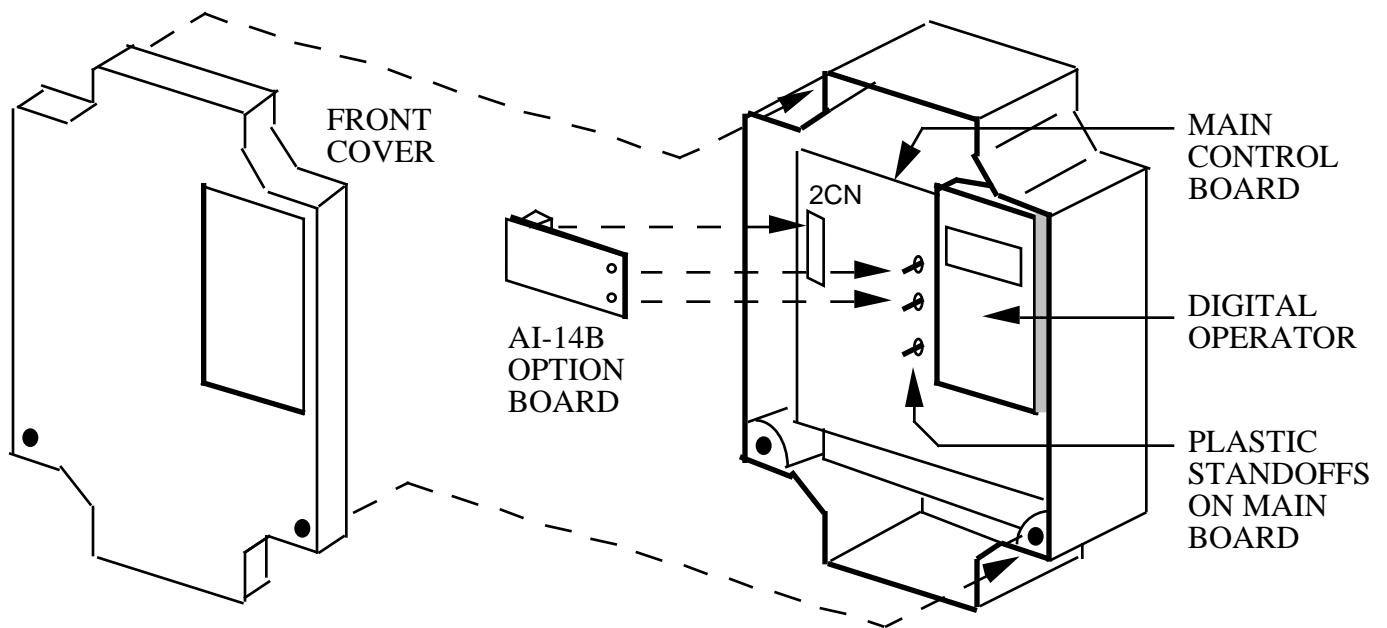

Figure B1. Installation of Analog Speed Reference (AI-14B) in VCD 703
- B4. See Figure B1. Install the option on the Main Control Board, 1PCB, and ensure 2CN is properly connected. Make sure Electrostatic procedure is followed.